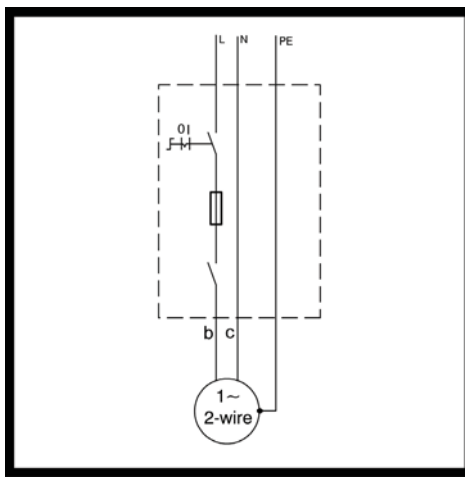

Fig.: 14
- 2 Super Stainless 2-wire connection (fig. 14)